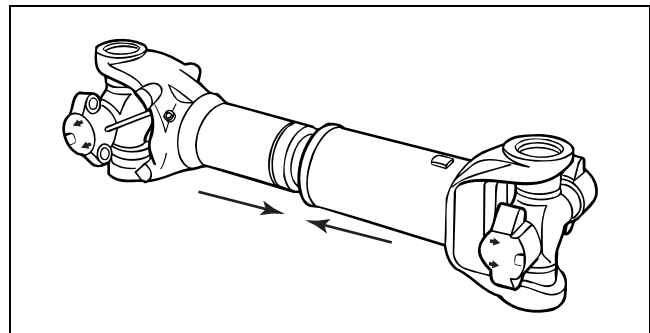

Figure 4.25
- Push together the driveline sections. Figure 4.25.